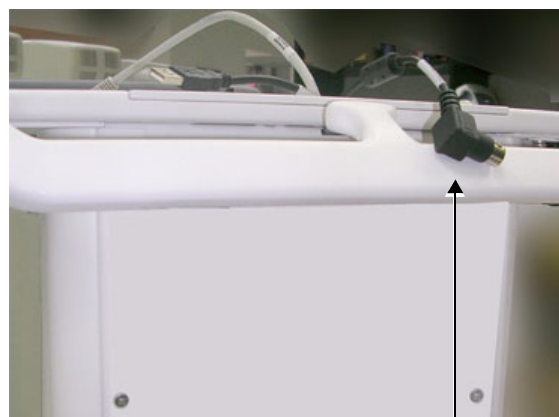

Figure 3-71 GE Healthcare - Global Ultrasound Rear Panel
(see Figure 3-71).
- 6.) Connect the USB Cable from the cart to the USB port on the Vivid-i™/ Vivid-q™ rear panel (see Figure 3-71). (use the *lower* port).